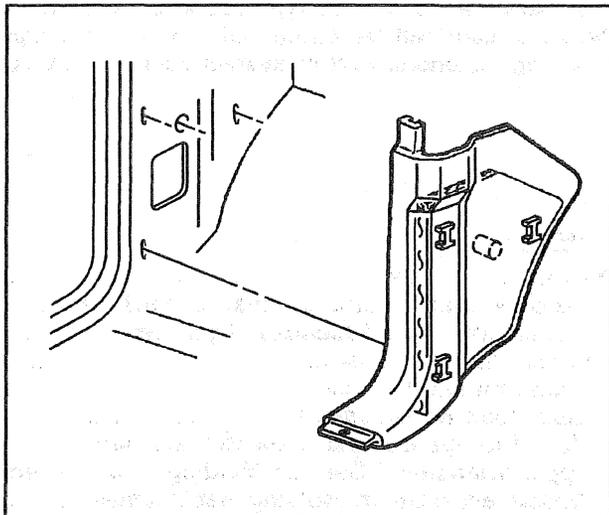

Figure 2—Hinge Pillar Trim Panel
↔ Remove or Disconnect (Figures 2 through 13)
7. Left and right hinge pillar trim panels (figure 2).